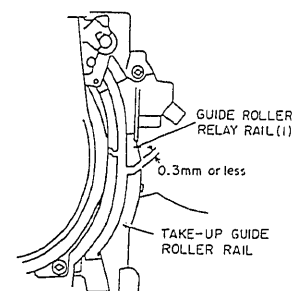

Fig. 3-6
- Check that the gap between the take-up guide roller rail and guide roller relay rail (1) is within 0.3mm. (Use the 0.25mm washer used in the mechanical block to make checking easier.) (See Fig. 3-6)